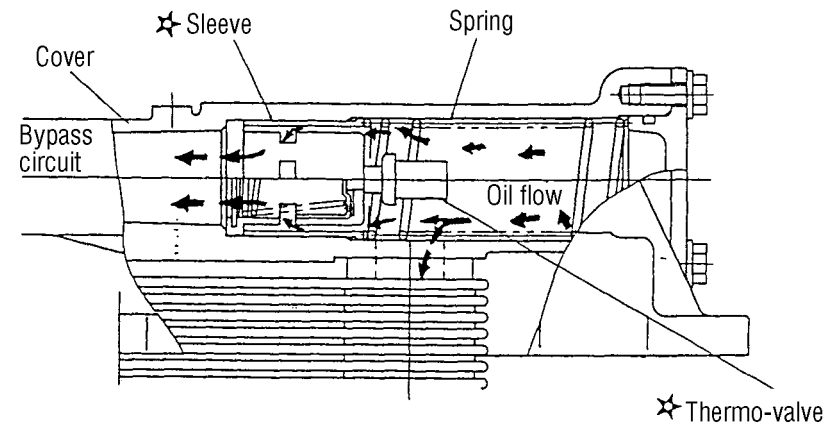

Fig. 2 Improved thermo-valve
- 8) To solve the above problem, the thermo-valve has been improved as shown in Fig. 2 so that the bypass circuit will not be closed, even when oil of a higher viscosity is used under low atmospheric temperature, by the high viscosity of the oil.